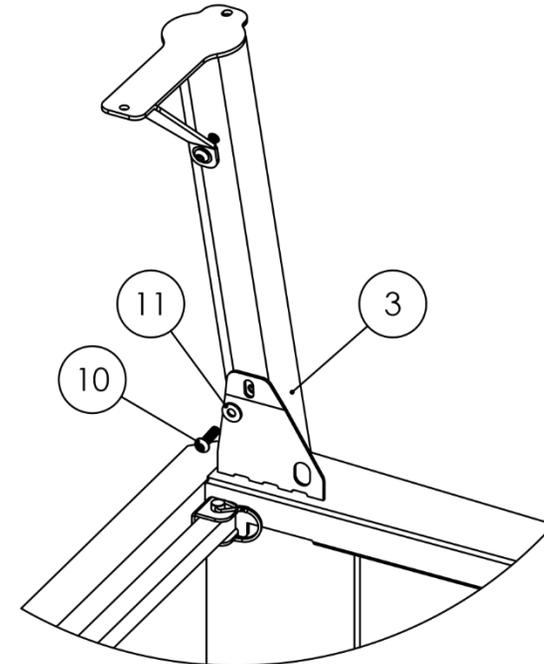

Figure 9
6. **Install the Legs onto the Base Rails.** To install the Legs (Item No. 3), align the angular projection on the Base Rails with the bottom of each Leg. Secure each Leg by threading a 1.25" Button Head Cap Screw (Item No. 10) and a Metal Washer (Item No. 11) between the holes of the gusset, the Leg and the angular projection. After you are done, the Leg and its assembly should appear as shown in Figure 9. You may find it useful to lightly tighten the screws for now, as it will allow you to align the rack once the Crossbars (Item No. 2) are mounted.